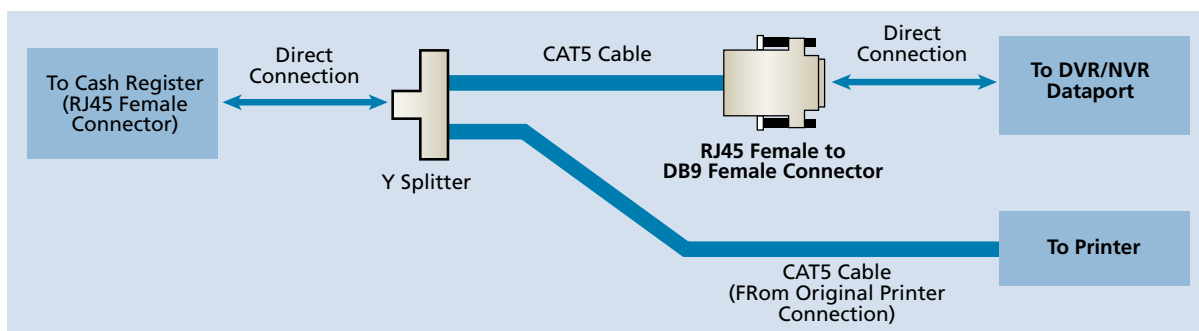

Figure 2: A Typical Register Interface Cable
2. Order the appropriate interface cable listed in the March Networks Price List. The interface cables have been designed with even the largest convenience stores in mind, utilizing CAT5 cable to ensure that data transfers over distances of up to 100 feet can be reliably achieved. Bundled with the appropriate RJ45 to DB9 or DB25 converters, these cable kits are both reliable and easy to install [Figure 2]. For more information about installing the cable, see the Technical Instructions document which accompanies the kit.